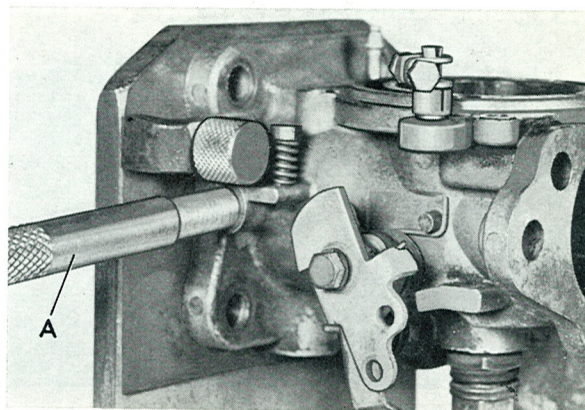

Fig. 2-108. Pressing in the bush
4. After completing the reaming, turn the stand pin 90° so that it forms a stop inside the carburettor housing for the bushes. Then drive in the bushes with drift SVO 2402, see Fig. 2-108.